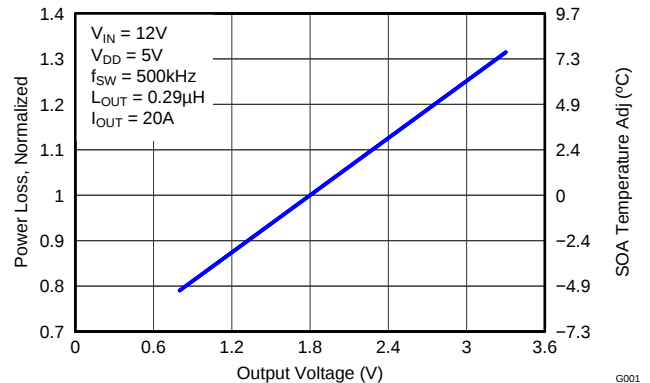

Figure 10. Normalized Power Loss vs Output Voltage
- Normalized Power Loss for output voltage  $\approx 0.93$  (Figure 10)
- SOA adjustment for output voltage  $\approx 1.0^{\circ}C$  (Figure 10)